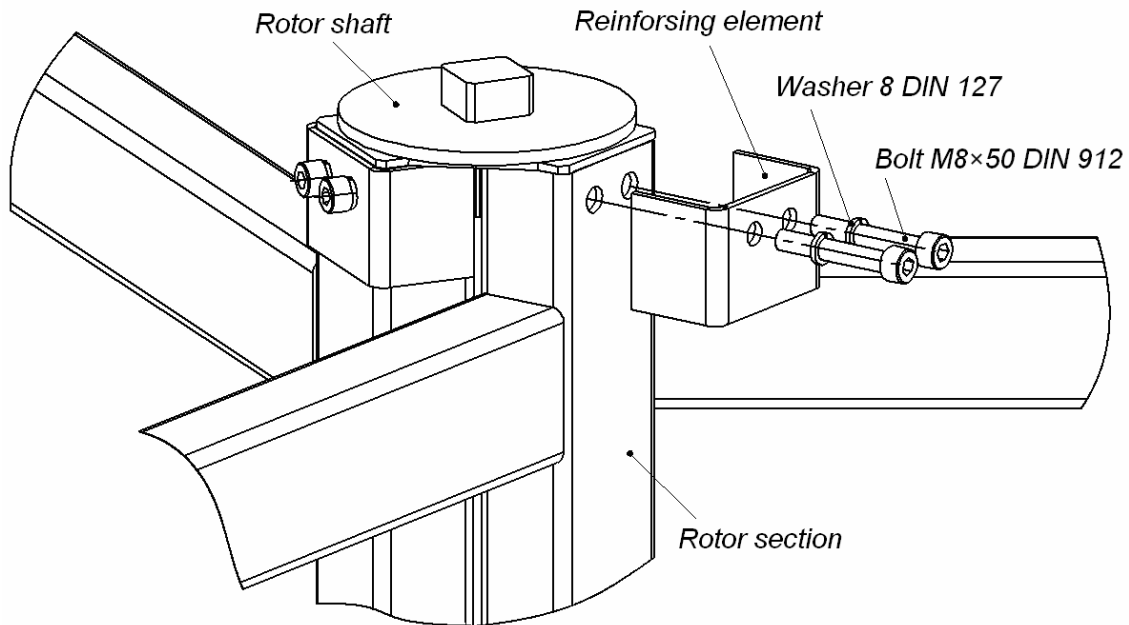

Fig. 16 Juncture of the rotor reinforcing elements
- install the reinforcing element on the top of the standard rotor section and fix the sections by 2 M8×50 bolts with spring washers 8 (Fig. 16);